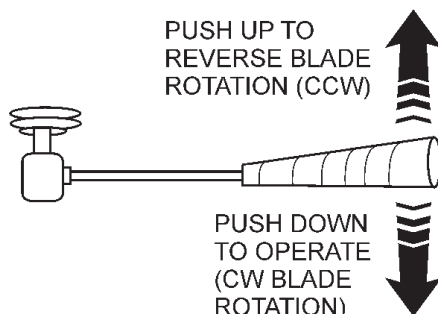

Figure 31. Hopper Remixer Control Lever
- Push the Hopper Remixer Control Lever **DOWNWARD** (Figure 31). The Hopper Remixer Control lever is located to the left of the Hydraulic Temperature gauge. Observe that the blades (Figure 32) inside the hopper are turning in a clockwise direction (**FORWARD**). To turn the blades in a counterclockwise direction (**REVERSE**), push the